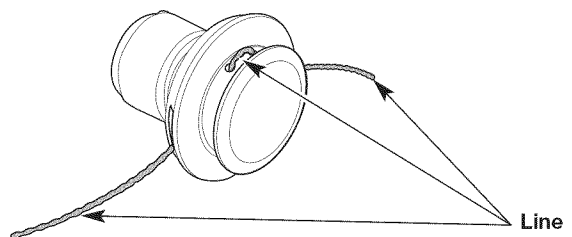

Fig. 17
4. Pull the ends of the line until the line is tight against the cutting head. Make sure the ends of the line are of equal length (Fig. 17).